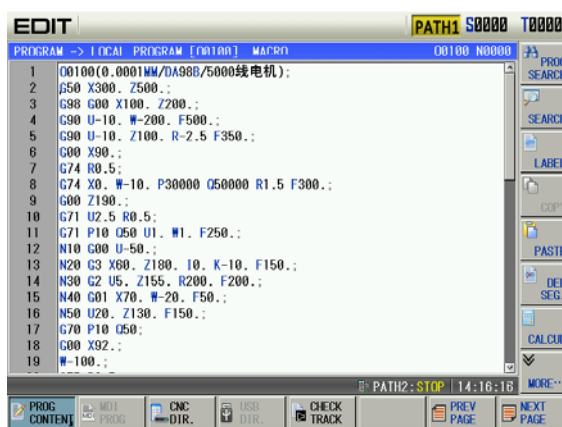

Fig 1
- 3) In edit mode, open the selected block in prg content page, move the cursor to the block to be executed, refer to the following fig.1;